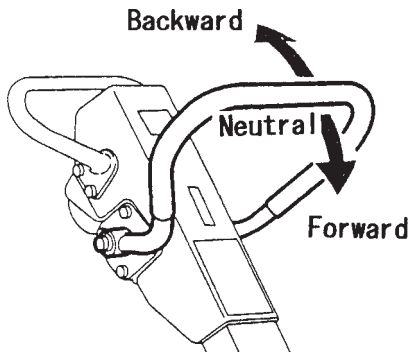

**Figure 17. Throttle Lever (Fast)**
1. Grasp the compactor's hand grip and move the throttle lever (Figure 17) quickly to the **fast** position. The compactor will not operate correctly until the engine speed is high enough to engage the centrifugal clutch (approximately 2300 RPMs)